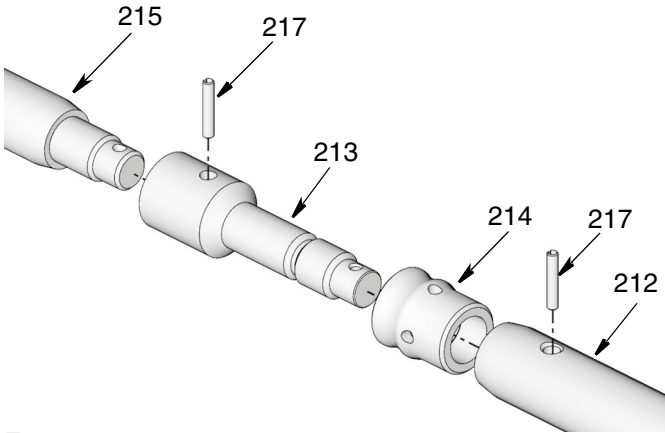

FIG. 31
21. Use a punch and hammer to tap out pins (217) holding the rod sections together (FIG. 31). Use your hands to unscrew shovel rod (215) and spacer rod (212) from piston (213).